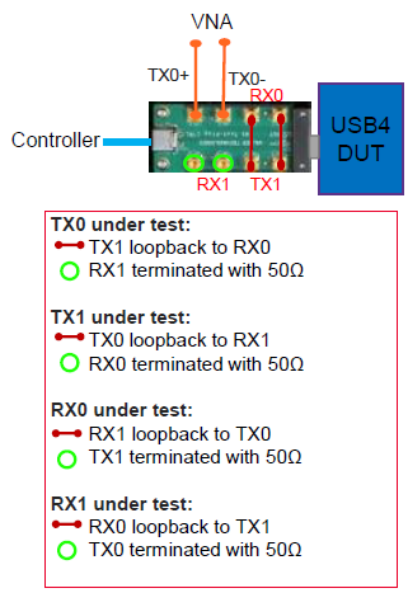

Figure 73 SMP test fixture - Tx/Rx lane switching
- 8 In case of SMP test fixture, Tx/Rx lane under test can be switched as shown in Figure 73.